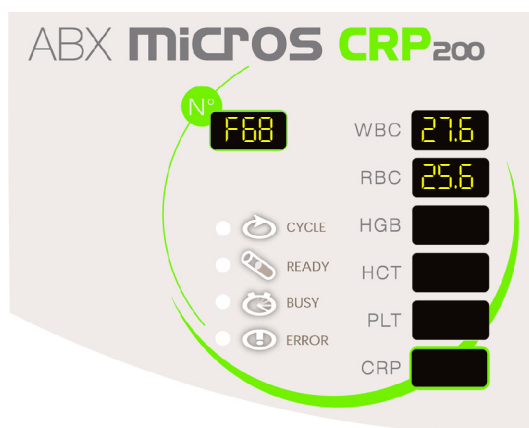

Fig.2: F68 display
- ◆ Enter F[68] function: Temperature check (See "Fig.2: F68 display, page 2").